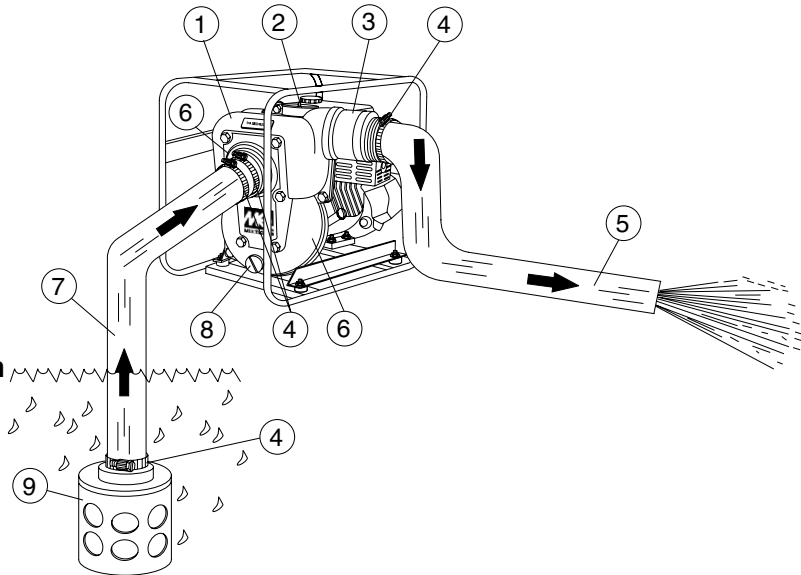

Figure 3. QP402H Pump Application
Figure 3 shows a typical application using the QP402H centrifugal pump. Please note that this pump is intended for the removal of clean water. .
2. To prime pump, remove fill cap (See Figure 3) and fill pump casing with water. If the pump casing is not filled with water before starting, it will not begin pumping.
3. Attach suction and discharge hoses to the pump. Check that all hoses are **securely** attached to the pump. Make certain suction hose (See Figure 3) does not have any air leakage. Tighten hose clamps and couplings as required.
6. Check that the **discharge** hose (See Figure 3) is not restricted. Place hose so that it lays as straight as it is possible on the ground. Remove any twists or sharp bends from hose which may block the flow of water.
8. Make sure the **suction strainer** (See Figure 3) is clean and securely attached to the water end of the suction hose. The strainer is designed to protect the pump by preventing large objects from being pulled in to the pump.